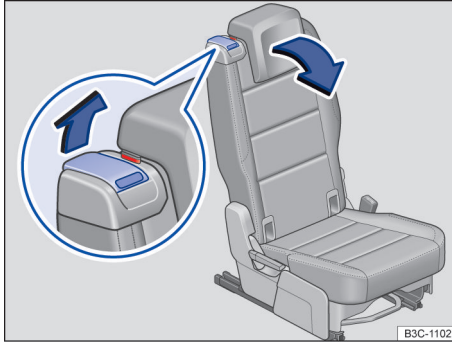

Fig. 4 Second row seats: entry assistance controls.
3. Push the release lever → fig. 4 forward in the direction of the arrow until the red marking is fully visible.
2. Pull the release lever → fig. 4 and fold the rear seat backrest back into the upright position.
The rear seat must be latched securely. If the red marking on the release lever is still visible → fig. 4, the rear seat is not securely engaged.
If the release lever → fig. 4 is not working, for example after a collision, the seats in the second row can be folded forward by someone in the third row to make it easier to exit the third row → ⚠.
- A red marking on the release lever → fig. 4 indicates that the rear seat backrest is not latched. The red marking must not be visible when the backrest is latched.